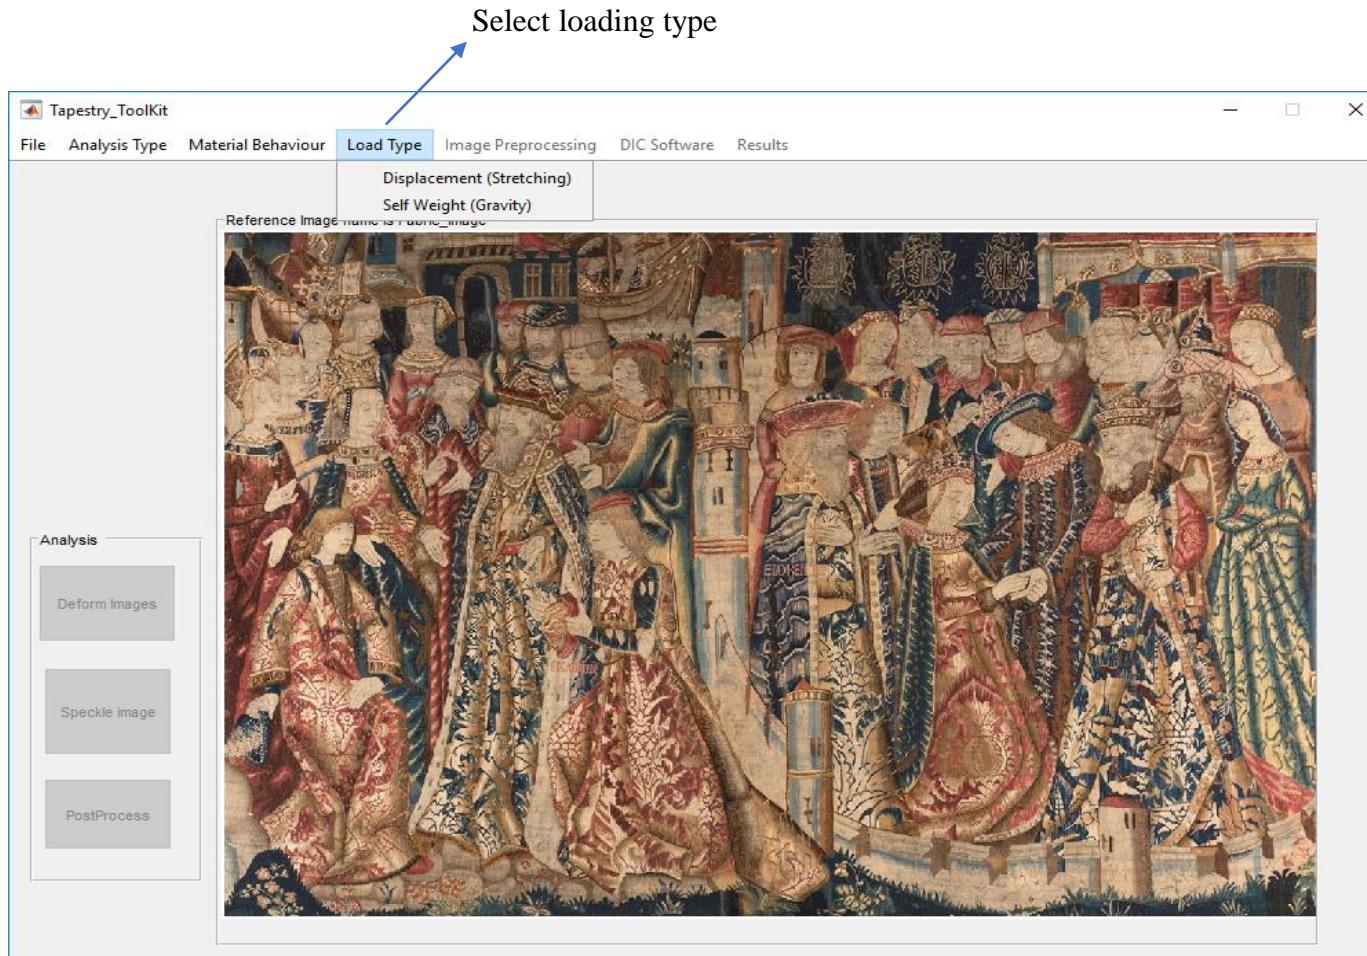

Figure 5
- Once the Material behaviour has been selected and the values of the material properties entered, the **Load Type** menu becomes active (see Figure 5)!